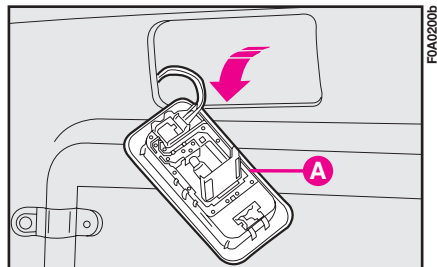

fig. 36
2) Open the container **A-fig. 36** and replace the burnt-out bulb.